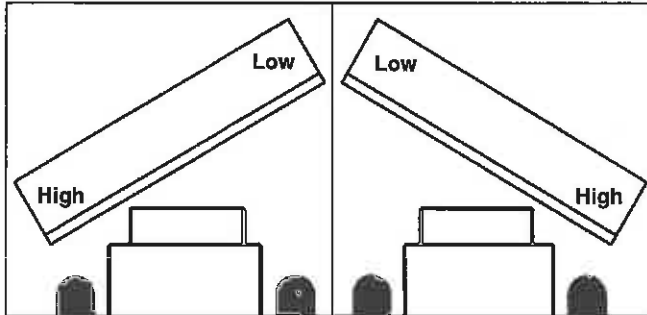

figure 29
- figure 29, turn leveling screws in.
- figure 29, retract tilt cylinders.
- figure 29, decrease the number of links between the upright and loader's cross member.
- figure 29, lengthen the hitch toplink.